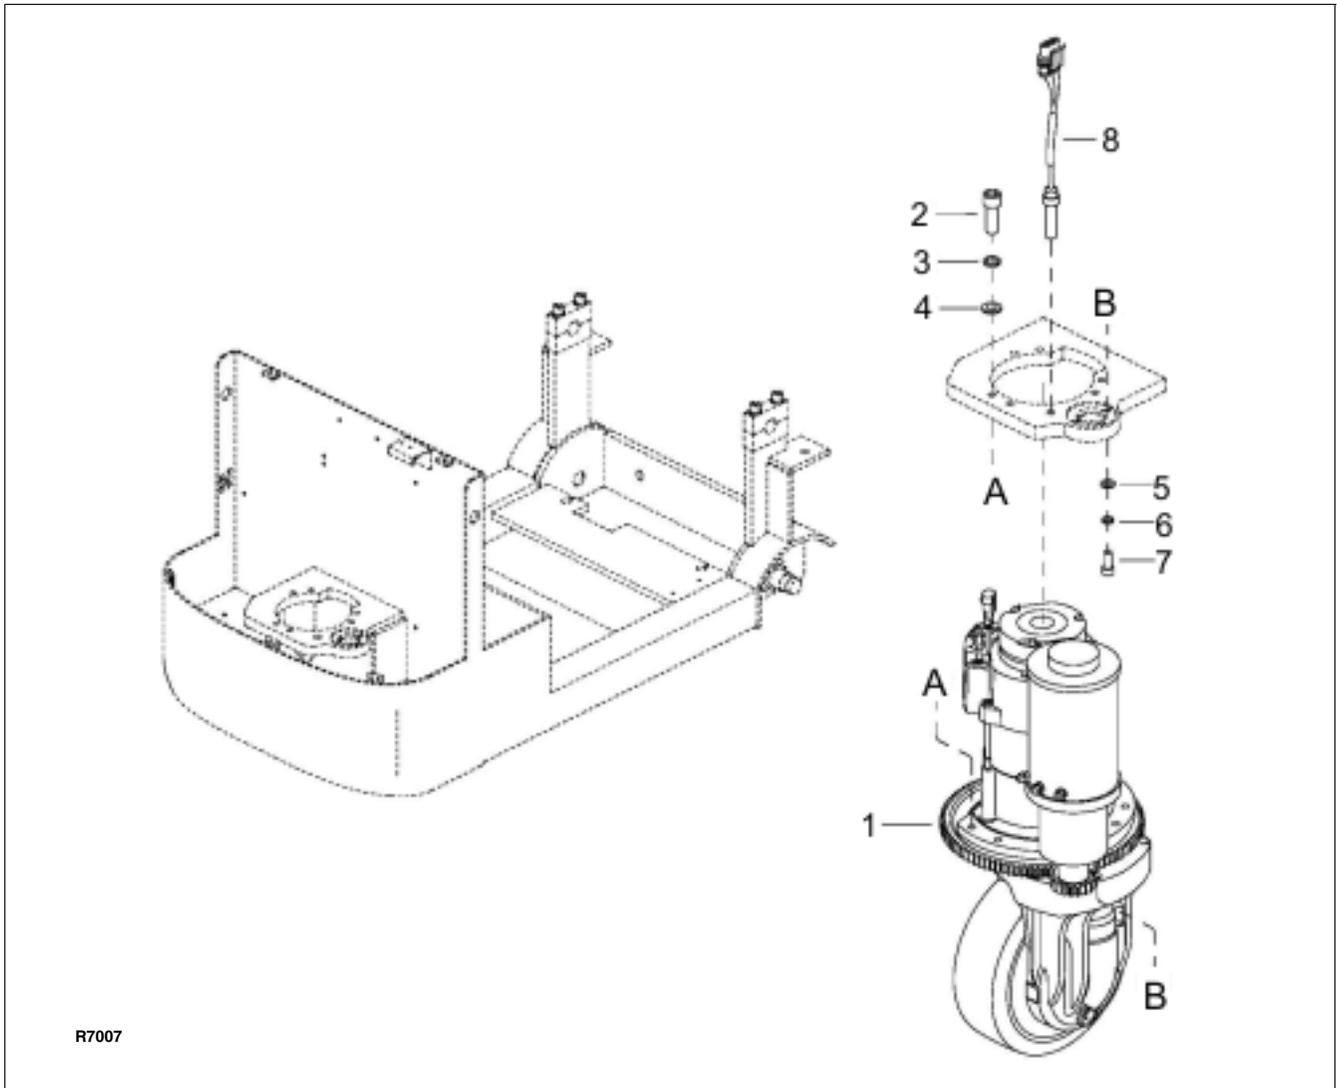

Figure 4-3 Drive System
4. Remove three screws (7, Figure 4-3) three lock washers (6) and three flat washers (5) from under the vehicle.
2. Secure the motor with two screws (7, Figure 4-3) two lock washers (6) and two flat washers (5) from under the vehicle.